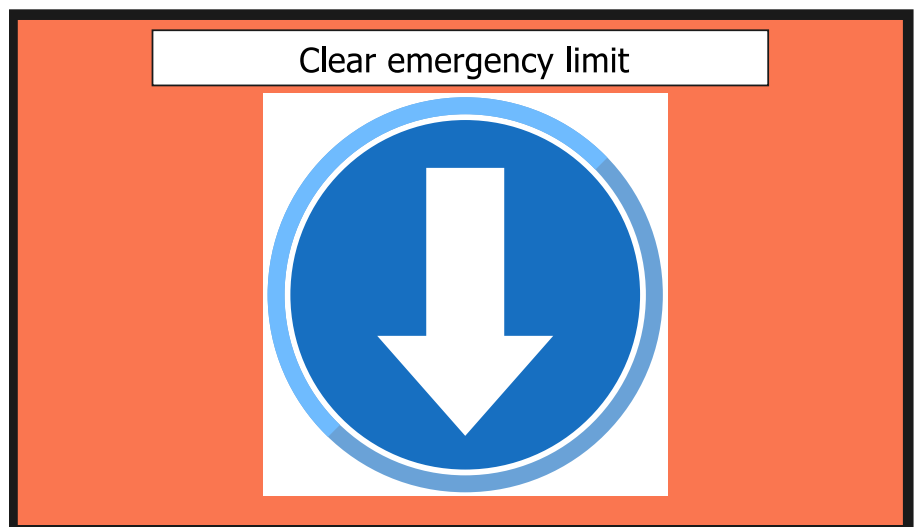

Fig. 43 Approaching the emergency limit switches – clearing the emergency limit switch
- ⇒ An informative warning message appears on the display indicating that the emergency limit switches can now be cleared (see Fig. 43).